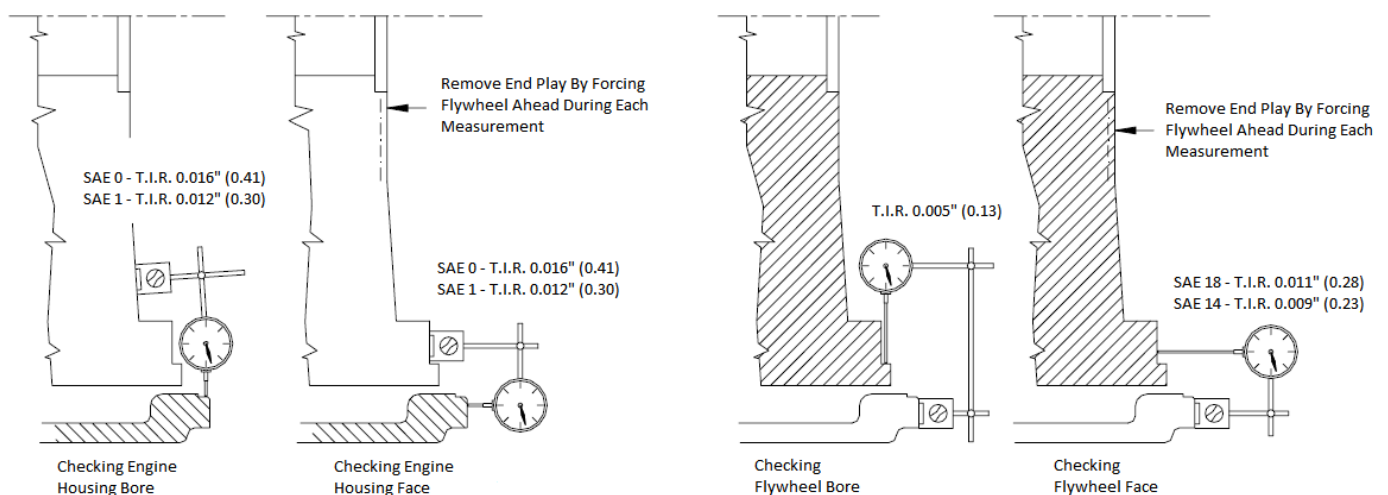

Figure 1: Checking that the flywheel runout is within SAE tolerances.
- 3.1.1 Check that the flywheel is within SAE tolerances (see Figure 1).